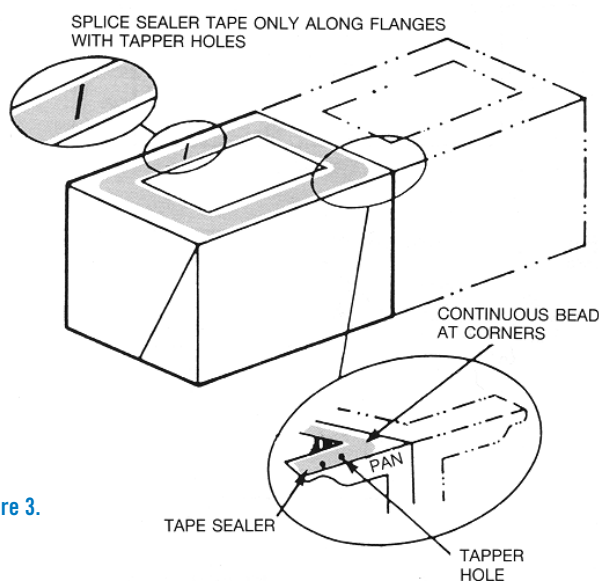

Figure 3.
3. Apply the 25 mm flat (trapezoidal cross section) tape sealer around the periphery of the top flange of the panfan section as shown in Figure 3. This tape sealer must be centered directly over the centreline of the taper holes and on the centreline of the end flanges where there are no taper holes.